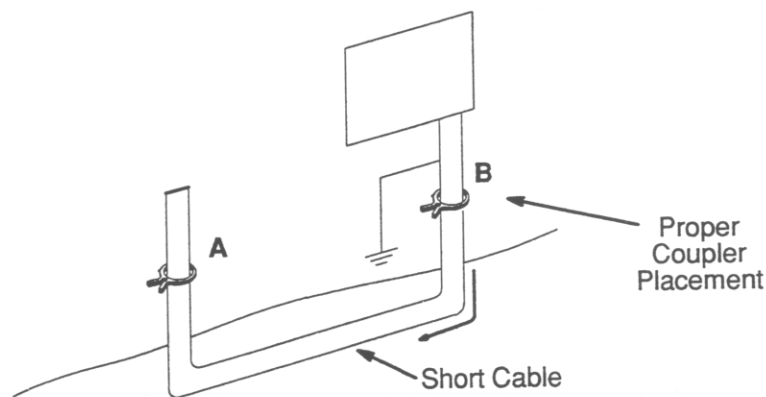

Fig. 3-4 Dyna-Coupler on Short Cable
1.10 Refer to Fig. 3-4. On short cables, such as service drops, do not use the Dyna-Coupler on an un-grounded end as in A. It works better on the grounded end as in B.